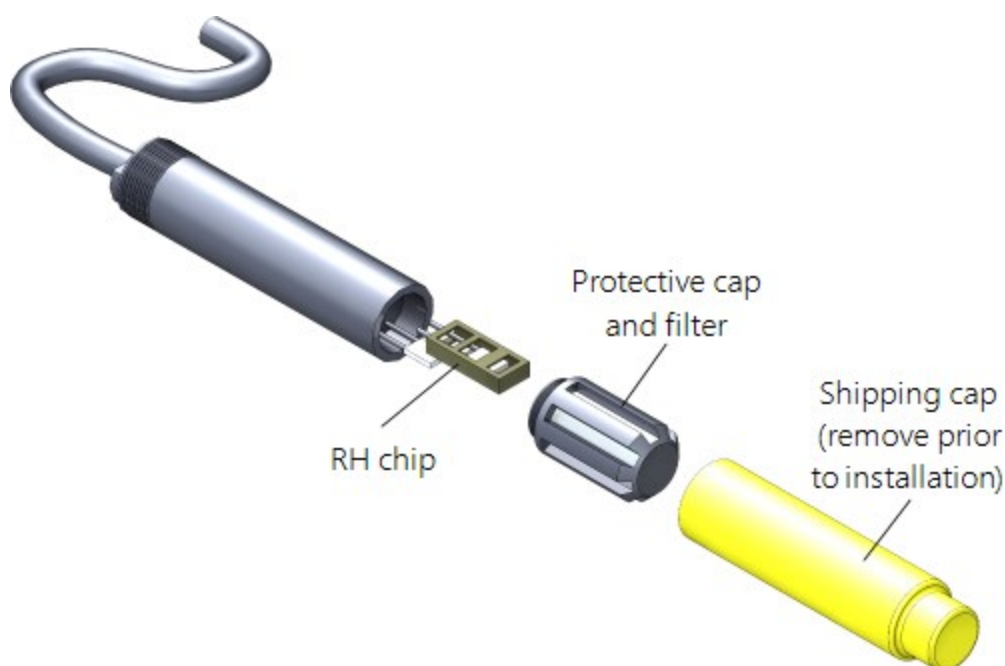

FIGURE 7-1. Exploded view of the temperature and RH sensor (adapter not shown)
- Check calibration of the HMP60-ETS Temp/RH sensor, which tends to drift up over time giving readings higher than 100%. Replace RH chip if necessary (refer to FIGURE 7-1 (p. 64) and Procedure for removing RH chip (p. 65)).
1. Unscrew the protective cap (see FIGURE 7-1 (p. 64)).